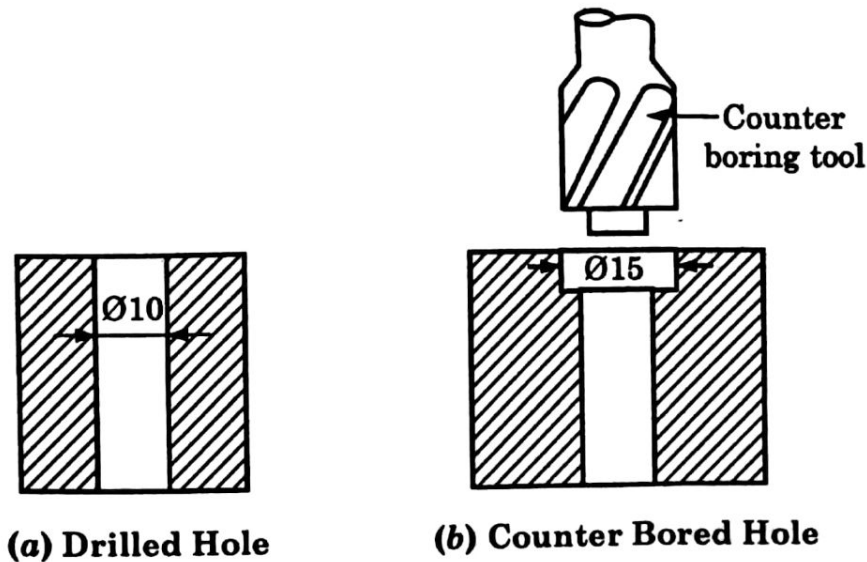

Fig. 2.18 : Counter-boring
5. **Counter-boring :** Counter-boring is done to increase the size of a hole at one end only through a small depth as shown in fig. 2.18. This is used for enabling the bolt/screw/ stud head to sit properly so that it does not interfere with the job when it is assembled with other mating surface.